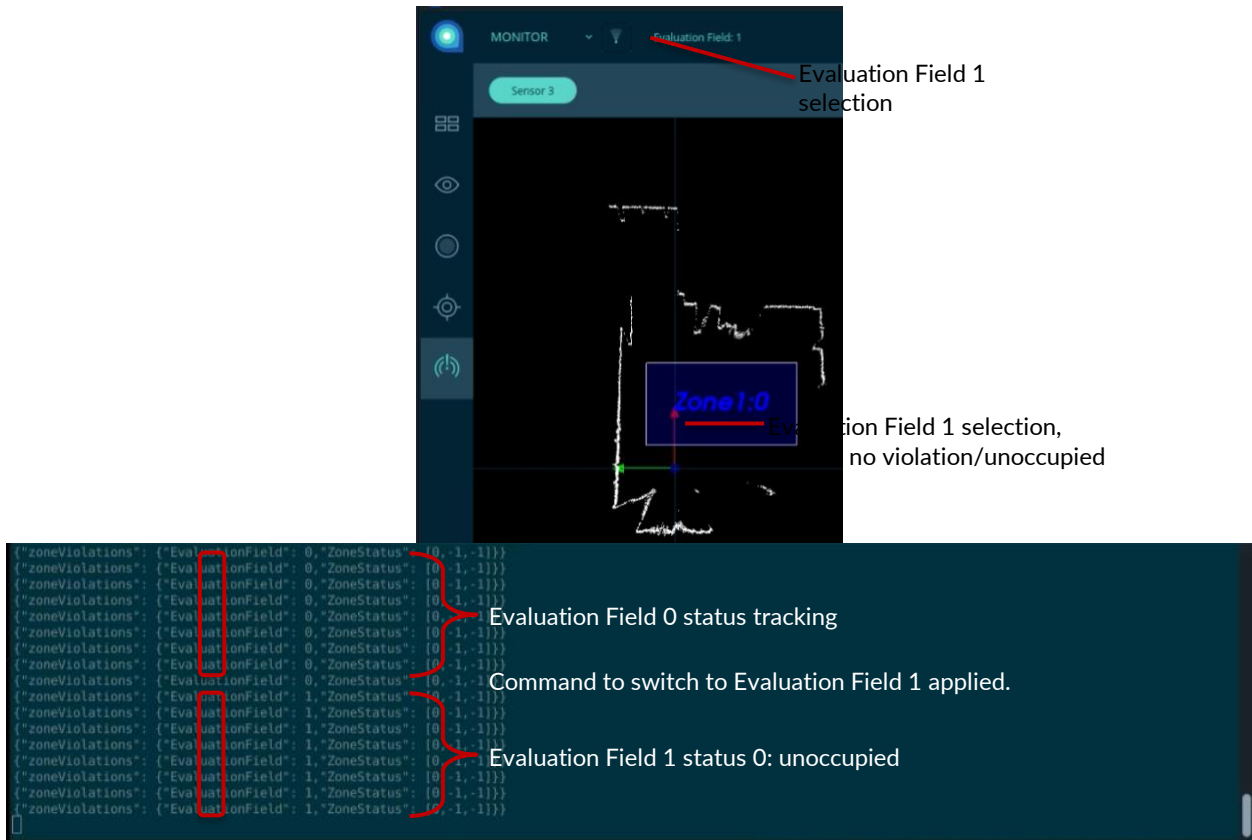

Figure 94. QORTEX Aware: Evaluation Field from Evaluation Field 0 to Evaluation Field 1
- Selected Evaluation Zone Status from Evaluation Zone 1 to Evaluation Zone 2. Both Q-View > QORTEX Aware tab view and CLI view. See Figure 94. QORTEX Aware: Evaluation Field from Evaluation Field 0 to Evaluation Field 1.